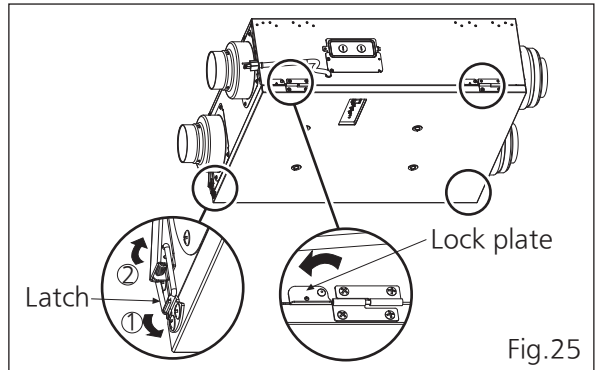

Fig.25
5. Reinstall and close frame cover by locking the latches, then reset the lock plate. (Fig.25)